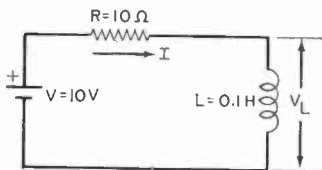

Fig. 5
Ex. 3. Referring to Fig. 5, determine the current I at (a) $t = 0$ and (b) $t = \infty$. (c) What is the time constant for the circuit? *Sol.* (a) $I(0) = 0$. (b) $I(\infty) = V/R = 10/10 = 1$ A. (c) $T = L/R = 0.1/10 = 0.01$ s = 10 ms.
Ex. 4. For the circuit in Fig. 5, find the voltage across the inductor, at (a) $t = 0$ and (b) $t = \infty$. *Sol.* (a) Because the inductor acts like an open circuit at $t = 0$, $V_L(0) = 10$ V. (b) Because the inductor acts like a short circuit in steady state, $V_L(\infty) = 0$.
D. Functions of Time. For times between $t = 0$ and $t = \infty$, the current and voltage as functions of time for the circuit in Fig. 5 may be expressed by: $i(t) = (V/R)(1 - \epsilon^{-tR/L})$ and $v_L(t) = V \epsilon^{-tR/L}$.